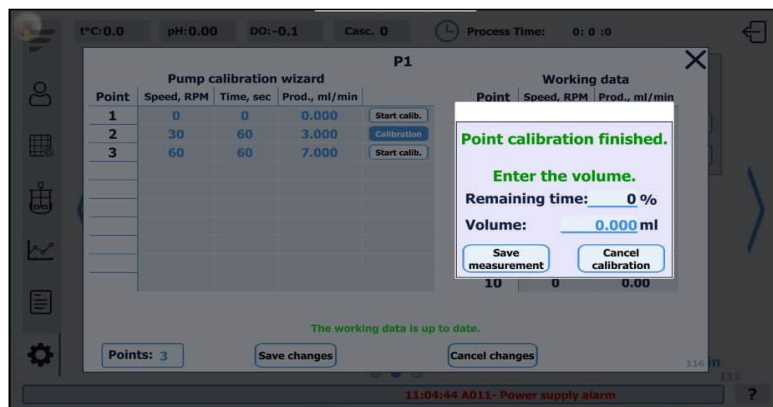

Figure 10.5. Pump calibration procedure finished
- 11) By pressing the Save measurement button the user can save the calibration data (see Figure 10.5). By pressing the Cancel calibration button the user can discard the newly entered calibration values.